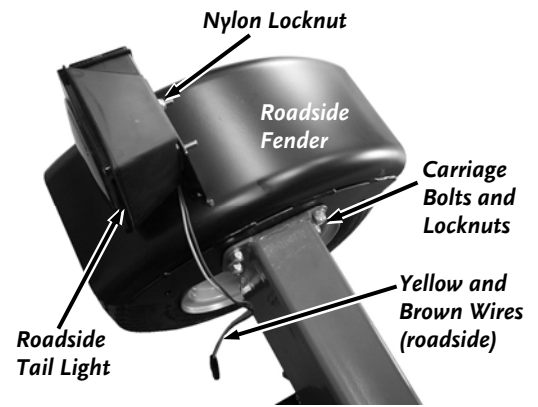

Figure 43
7. Assemble the Fenders to the Frame with eight 5/16-18 x 3/4" Carriage Bolts (fender side) and Locknuts using a 1/2" Wrench (**Figure 43**).